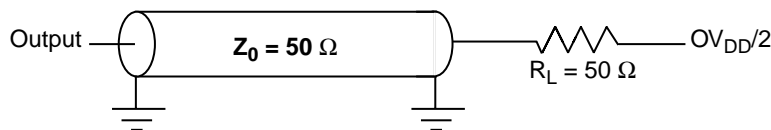

Figure 8. AC Test Load for the L3 Interface
- For high speed operations, L3 interface address and control signals should be a “T” with minimal stubs to the two loads; data and clock signals should be point-to-point to their single load. Figure 8 shows the AC test load for the L3 interface.
Table 12 provides the L3 bus interface AC timing specifications for the configuration as shown in Figure 9, assuming the timing relationships shown in Figure 10 and the loading shown in Figure 8.
5. All output specifications are measured from the midpoint voltage of the rising (or for DDR write data, also the falling) edge of L3_CLK to the midpoint of the signal in question. The output timings are measured at the pins. All output timings assume a purely resistive 50- Ω load (see Figure 8).
Table 13 provides the L3 bus interface AC timing specifications for the configuration shown in Figure 11, assuming the timing relationships of Figure 12 and the loading of Figure 8.